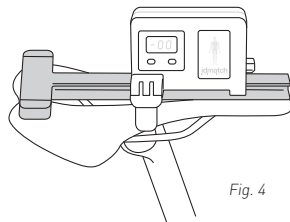

Fig. 4
4. Set the saddle to 0° of inclination (Fig. 4).